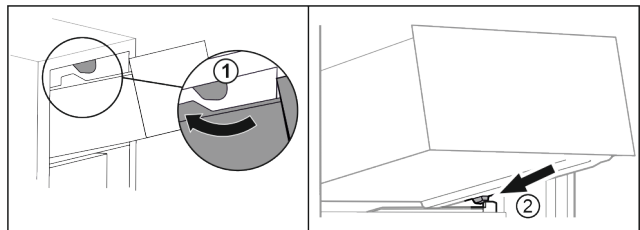

Fig. 68
- ▶ Guide drawer around the upper stoppers. Fig. 68 (1)
- ▶ Place drawer at an angle behind the lower stoppers onto moulded rib. Fig. 68 (2)